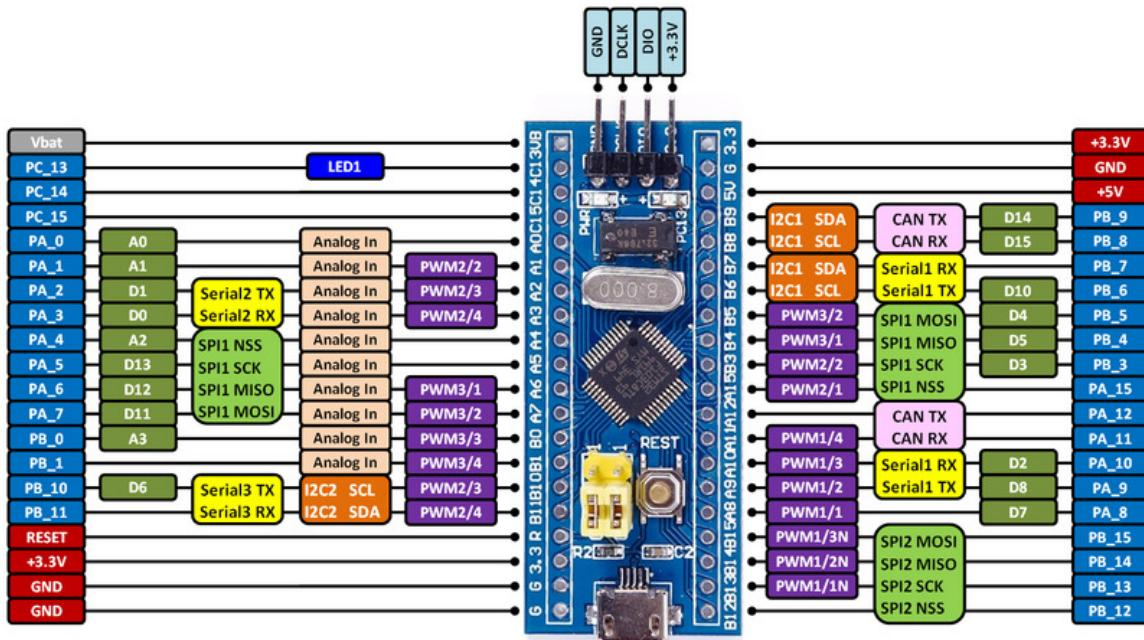

Figure 12.2.2.4.1: Pin Connections of STM-32
12.2.2.3. The STM32F103C8T6 micro-controller in Fig. 12.2.2.4.1 has two ground pins, few analog input pins and few digital pins that can be used for both input as well as output. It has one Vcc (3.3V) pin that can generate 3.3V. In the following exercises, only the GND, 3.3V and digital pins will be used.